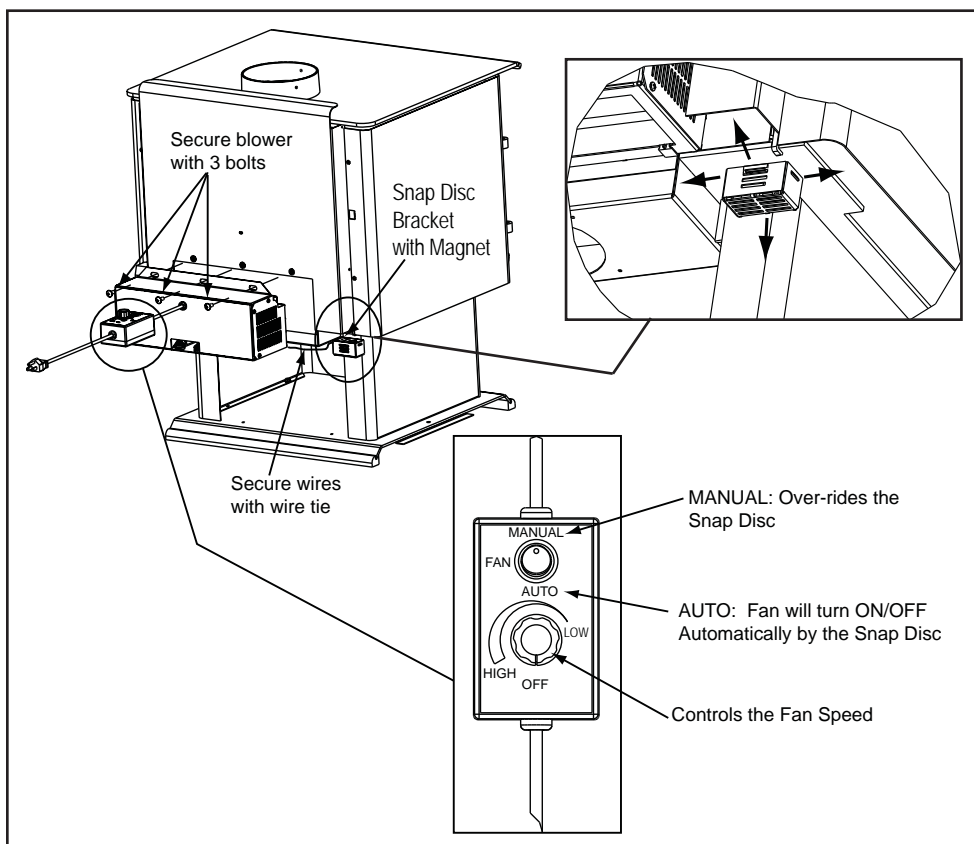

Figure 16.1
2. Align holes in mounting flange of blower with bolt holes in appliance. Blower should be positioned at bottom of rear outer skin as shown in **Figure 16.1**.
4. Place the bracket containing the snap disc and magnet under the bottom left rear corner as shown in **Figure 16.1**.